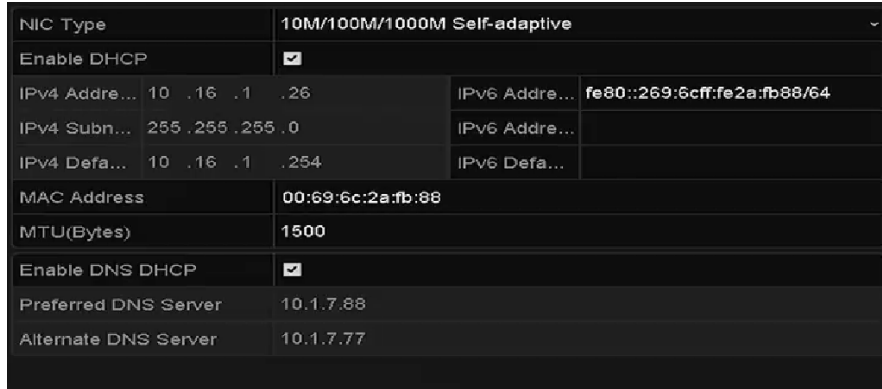

Figure 12-16 Network Settings Interface
Step 2 Set the IPv4 Address, IPv4 Subnet Mask, IPv4 Gateway and the Preferred DNS Server in the Network Settings menu, as shown in Figure 12-16.